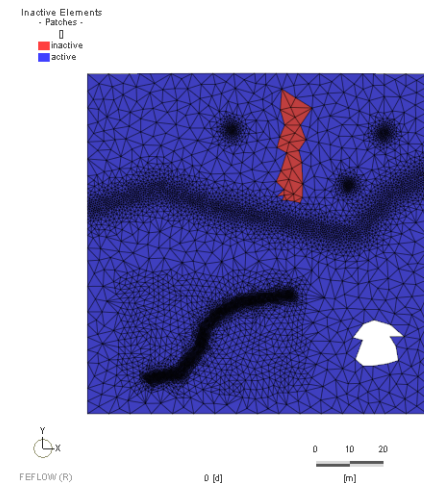

Figure 6.11 Active and inactive mesh elements.
**Editor** toolbar shows the setting *inactive* and click on  **Assign** to set the selected elements to inactive. The result is shown in figure 6.11.